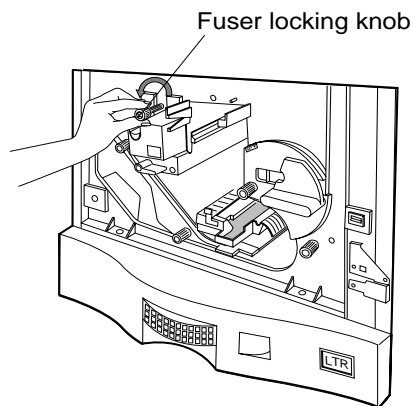

Figure 4-34 Releasing the Fuser Locking Knob
2. Turn the fuser locking knob counterclockwise several times to release the fuser, as shown in Figure 4-34.